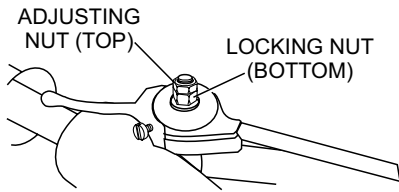

Figure 7. Throttle Cable Receiver Adjustment
- Adjustment of the throttle cable tension may be required. If so, loosen the **adjusting nut** (top nut) on the throttle cable receiver (Figure 7) and loosen or tighten the **locking nut** (bottom nut). Retighten **adjusting nut**.